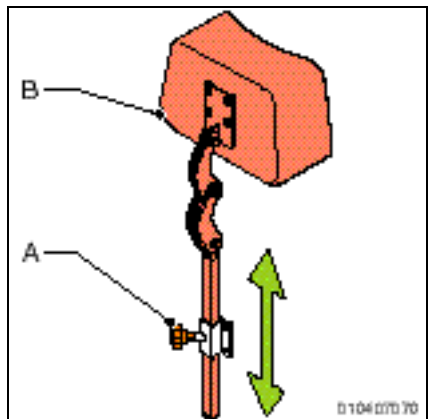

Figure 36
1. Loosen the star knob (A) by a few turns (figure 36).
2. Slide the headrest (B) upwards to remove.